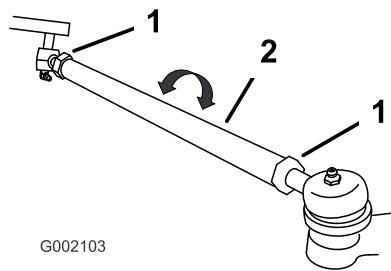

Figure 63
7. If the measurement does not fall within 0 to 6 mm (0 to 1/4 inch), loosen the jam nuts at both ends of the tie rods (Figure 63).